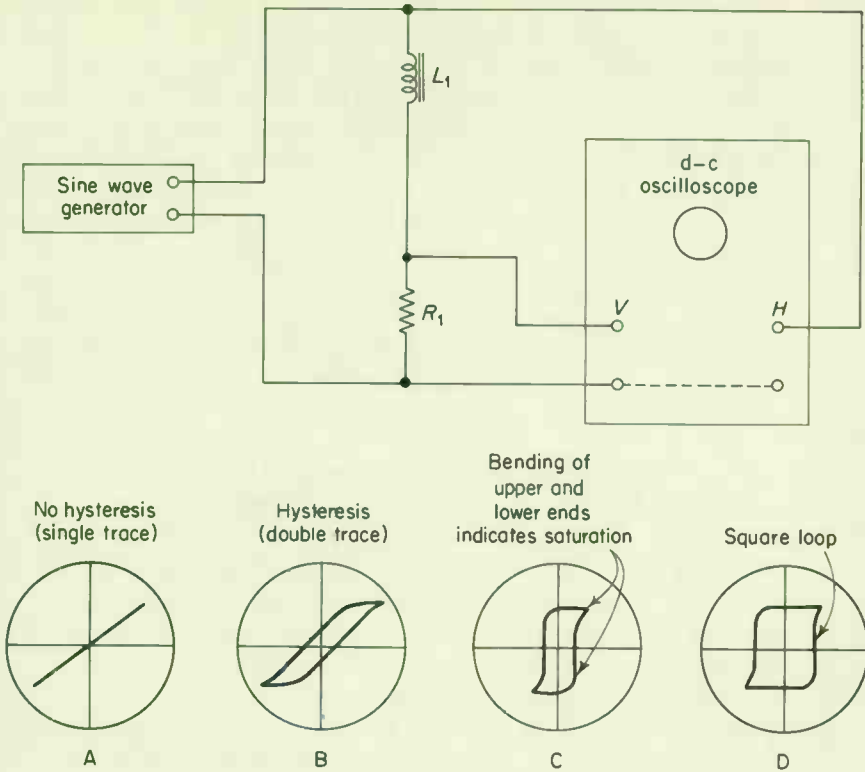

Fig. 9-4. Testing magnetic components for hysteresis and saturation.
As shown in Fig. 9-4, the magnetic component under test is connected in series with a noninductive resistance  $R_1$  of approximately 1–10 ohms. If the magnetic component is a material (such as a magnetic core) rather than a complete component, a temporary coil may be wound around the sample material. The material or component is tested by applying a sine wave of sufficient amplitude to produce saturation across both the component and the resistor  $R_1$ . The voltage drop across  $R_1$  is applied to the vertical channel, and causes the spot to move up and down. Therefore, vertical deflection is proportional to current through the magnetic device. In turn, this current is proportional to flux density.
1. Connect the equipment as shown in Fig. 9-4.